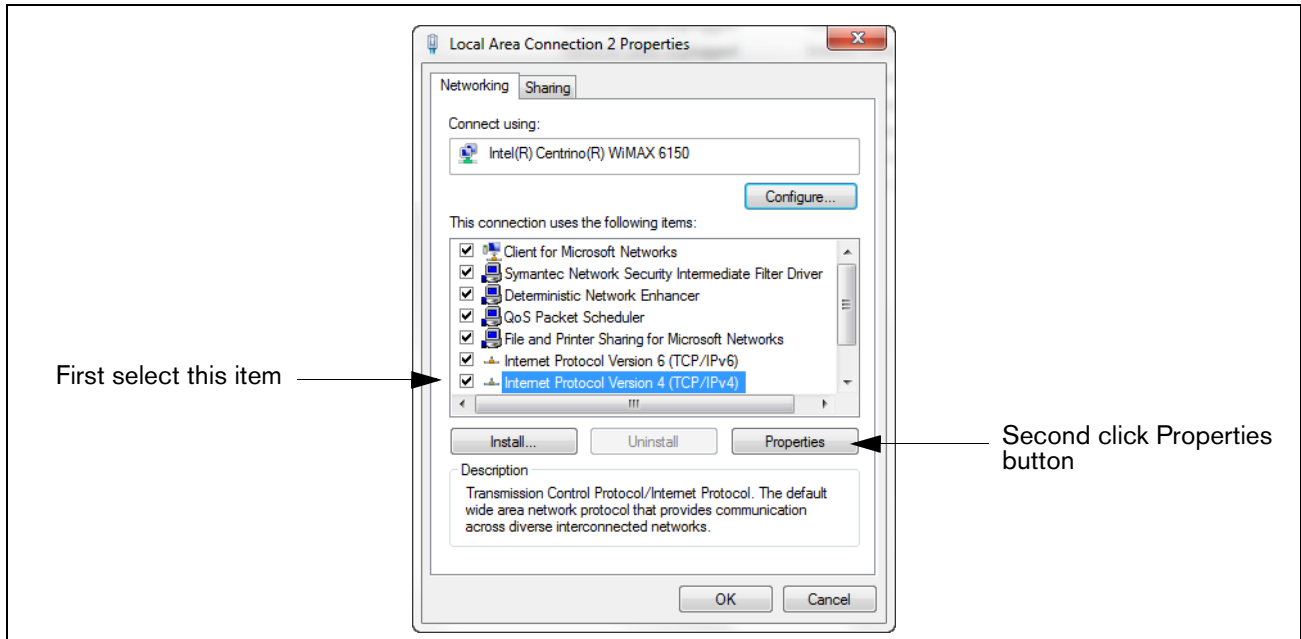

Figure B-2. Local Area Connection 'X' Properties dialog box selections
- When the selected Local Area Connection Properties dialog box opens make the selection shown in Figure B-2.